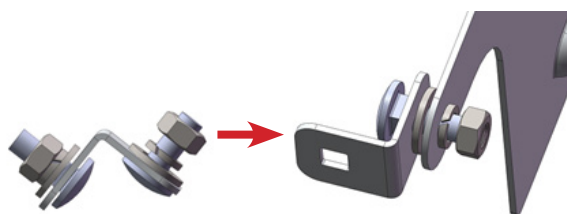

Figure 2
3.2 Assemble the Cover and the Isolator Bracket together as shown in Figure 2 and 3. Do not fasten the bolt as shown in Figure 2.